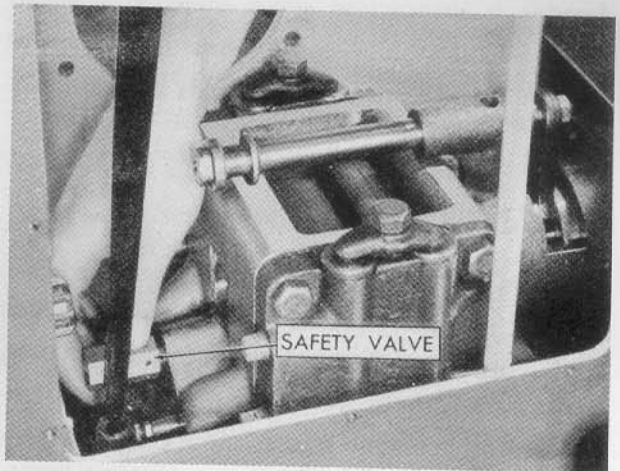
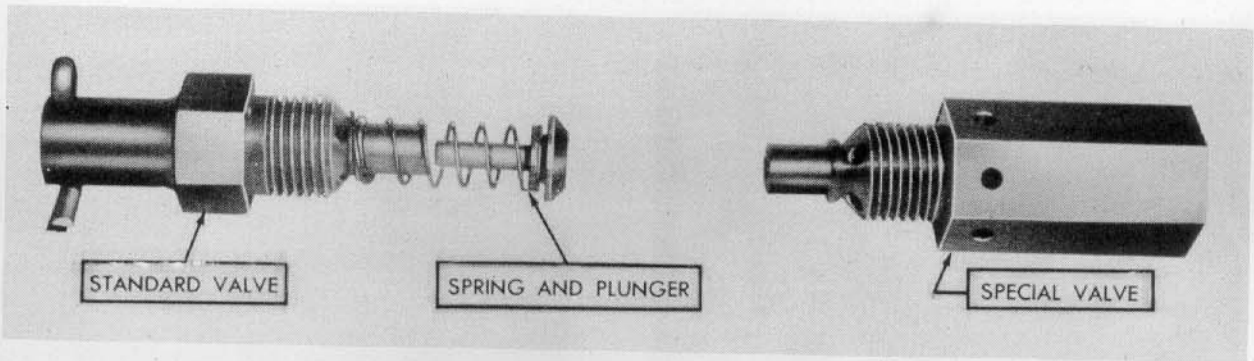

Figure 5
Figure 6
5. Replace the standard valve with the special valve as shown in Figure 5. In making this replacement remove the spring and plunger from the standard valve (see Figure 6) and fit in position on the special valve. The special valve is in the box of small parts in the carton of Bundle No. 3.